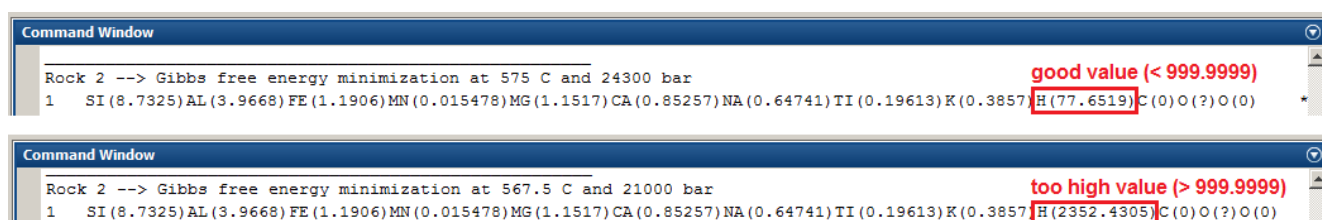

Figure 12.
6. There is a maximum water content that is supported by the program and depends on the Theriak output format. The program can deal with a THERIN having a maximum of 999.9999 moles of H (Fig. 12). Above this value, an error will occur (in the Command Window of MATLAB you will read in red “Undefined function or variable ‘VOL_Names’”). This occurs because in the Theriak output some numbers have no more space between each other (Fig. 13) and cannot be read correctly.